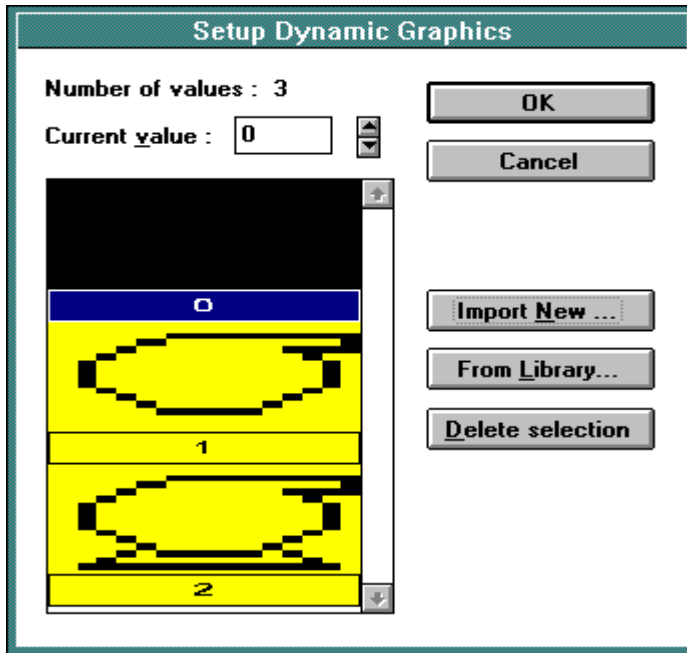

Figure 10-4
8. Perform the same procedure for selecting the value of 2 and the graphic of a pump (the filename for the pump is PUMP.BMP). Once this is completed, the dialog box that contains the graphics and their values will look similar to the screen capture shown in Figure 10-4. Clicking on *OK* will take the user back to the dialog box in which the address and the minimum and maximum values were set up. Clicking on *OK* from within this dialog box will complete the procedure and return the user to the page editor workspace.